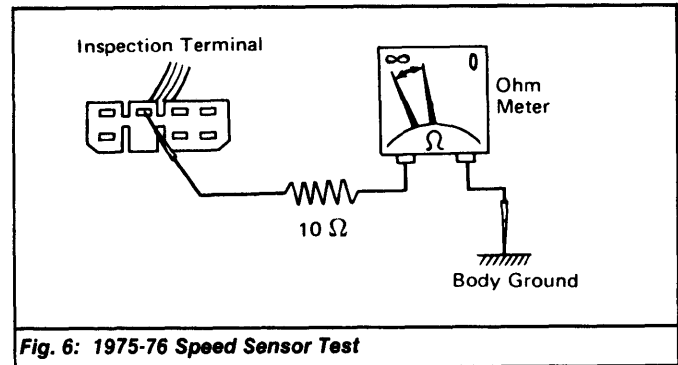

Fig. 6: 1975-76 Speed Sensor Test
2) Unplug wiring connector from computer. Using a 10 ohm resistor, connect positive lead of ohmmeter to computer connector speed sensor terminal. See Fig. 6. Connect negative ohmmeter lead to a known good ground.